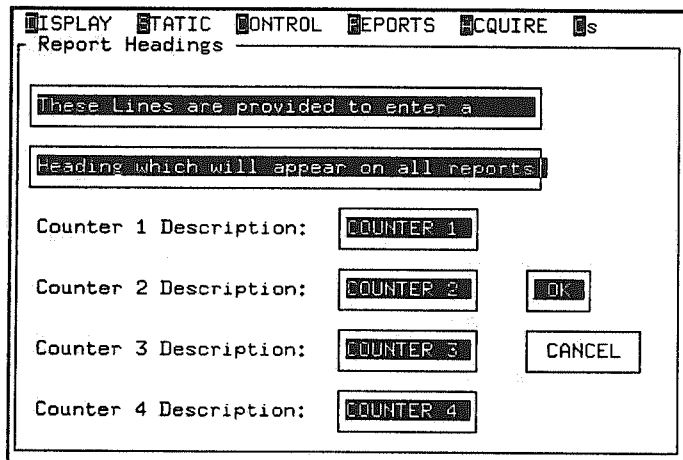

Figure 3-1 Defining Report Headings and Counter Labels
- Step 1:** Select the Display menu, Report Headings option. The Report Headings screen, Figure 3-1, is displayed.